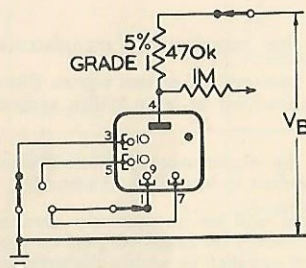

Fig. 3
- The K_{1.9} 1st guide and 2nd guide electrodes will be successively earthed through a suitable make before break type switch to cause 30 gaps to conduct in turn. The running voltage across each gap shall be within the specified limits. For this test the K₀ and K_{1.9} electrode will be commoned. The test circuit to Fig. 3 is applicable. The measurement of the running volts is to be made between 0.1 and 2.0 seconds after the contacts of the make before break type switch have broken.